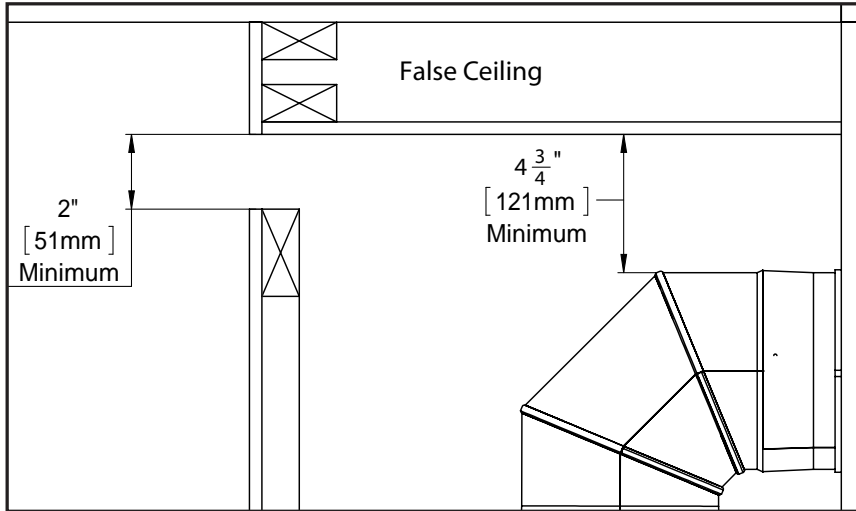

Figure 43: False Ceiling
**Optional: False Ceiling** - If your ceiling dimension is greater than the minimum (Figure 42) You may want the CSS Air discharge lower on the wall. To do this a false ceiling is required to properly evacuate the heat from the chase. (See Figure 43).